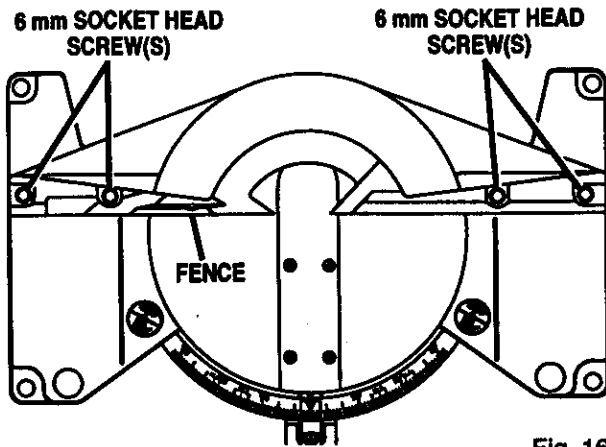

Fig. 16
- Using an 6 mm key, loosen the socket head screws securing the fence. See Figure 16. Adjust the fence left or right until the framing square and zero clearance throat plate are parallel.